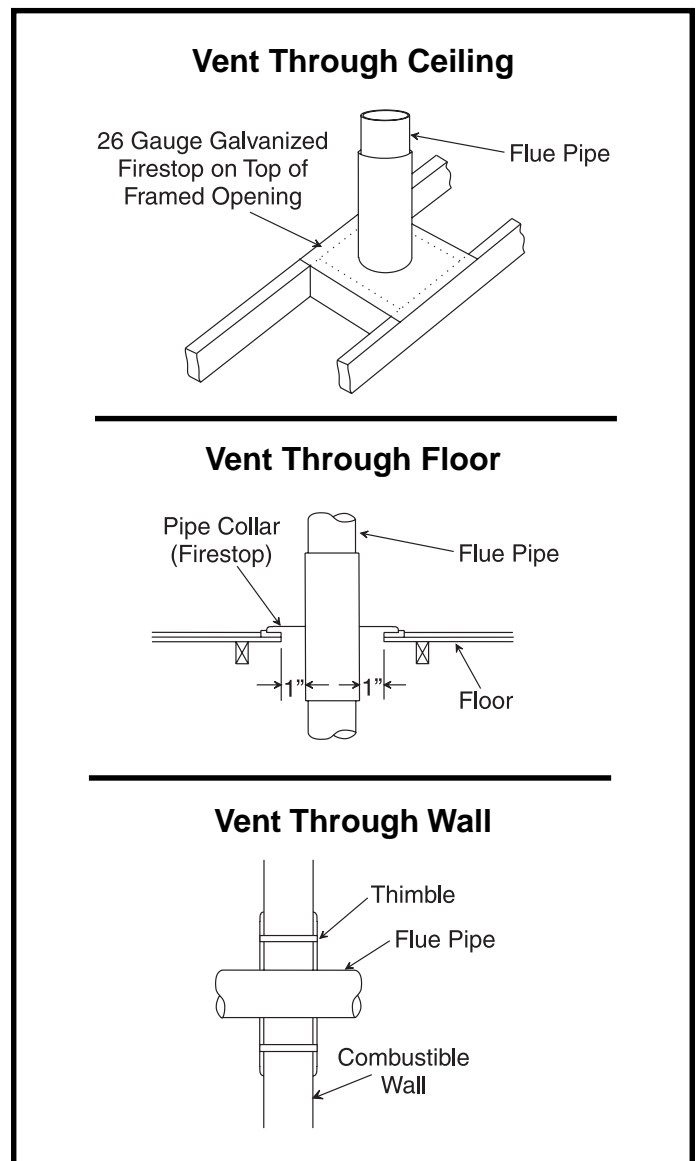

Figure 7
5. All vents passing through floors, ceilings, and walls must be firestopped according to the requirements of the National Fuel Gas Code (see Figure 7).